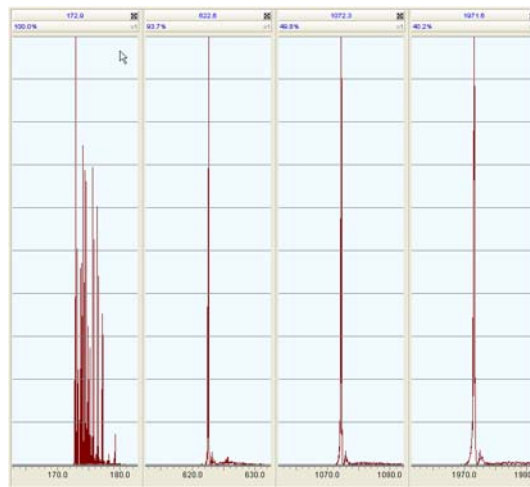

Figure 27 - Tune page peak display
20. The four peaks appear as in Figure 27.